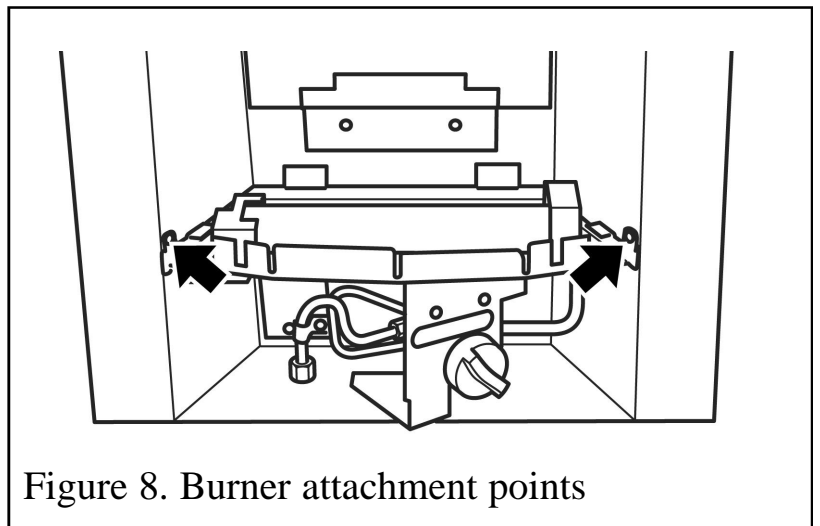

Figure 8. Burner attachment points
2. Detach the burner unit from the convector box by removing two screws (See figure 8). Lift the burner unit clear.